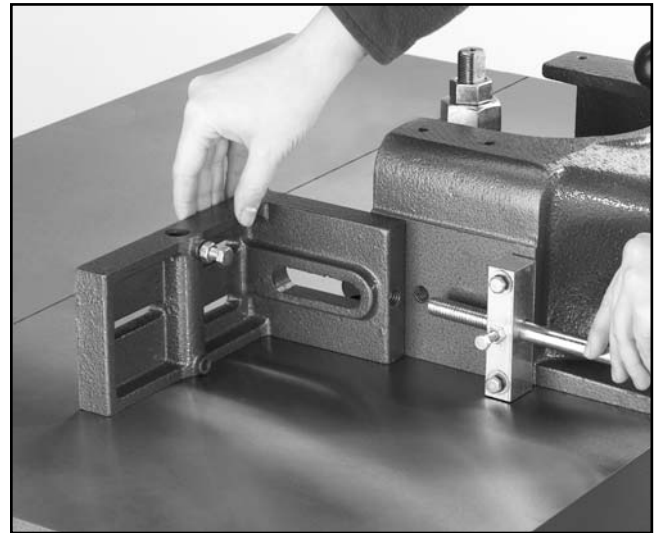

Figure 15. Adjustment shaft to fence bracket.
1. Make sure all rust protective grease has been removed from the fence pieces. Insert the adjustment shaft into the fence bracket as shown in **Figure 15**.